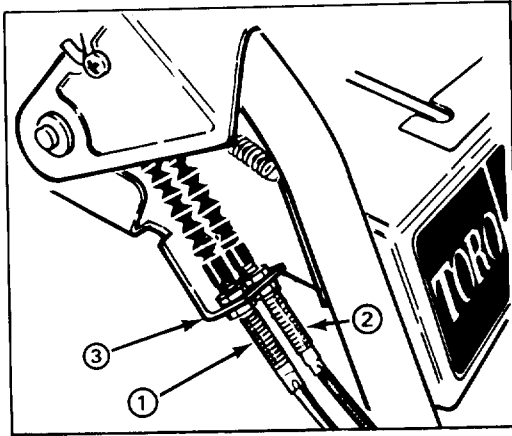

Figure 22
3. Loosen upper jam nut securing auger/impeller cable to mounting bracket (Fig. 22).
ADJUSTING TRACTION DRIVE BELT (Fig. 22)
8. On control cable which corresponds to belt being replaced, loosen jam nuts securing cable to bracket (Fig. 22). Cable must be free to slide in bracket when changing belt(s).